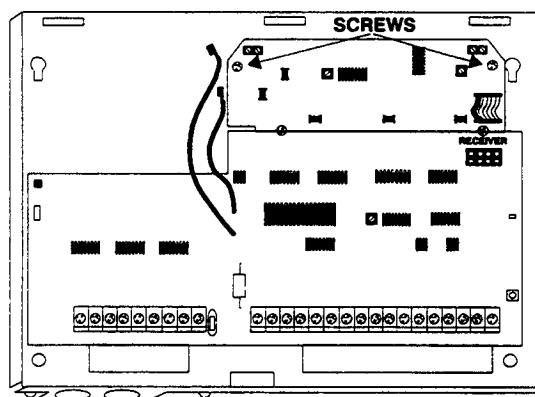

Figure 3. Receiver Module Top Screw Locations
- 3) Gently tighten the two circuit board screws and install two more screws (included) at the top of the module (see Figure 3).